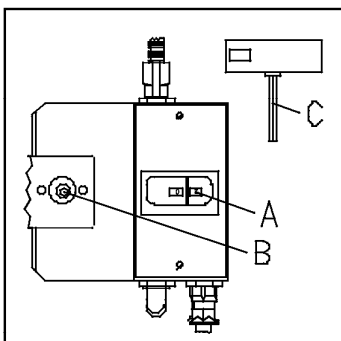

Fig.5
- * Press the button **O** at the main switch **A** or turn to **OFF** position **Fig. 5**